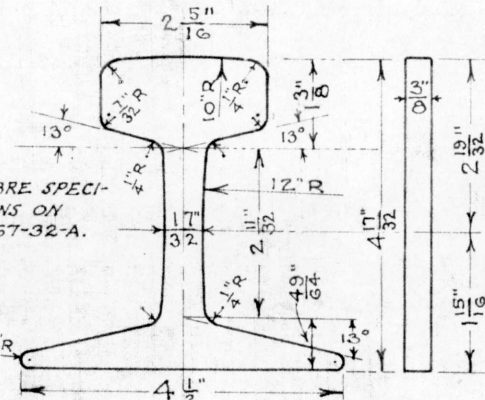

FIG. 6. FIBRE END POST.
- (d) " END POST FIG. 6 " " " " " L.
NOTE 4: WHEN FIBRE END POST, FIG. 6, IS USED ON 60-LB. RAIL 1/8" MUST BE CUT OFF TOP MAKING IT 4 1/4" HIGH.